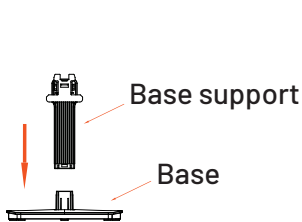

Figure 1
1. Position the base so that it faces itself, and assemble the support onto the base following the direction indicated by the arrow in the figure. Ensure the front slot of the base support aligns with the two ribs of the base, as illustrated in Figure 1.